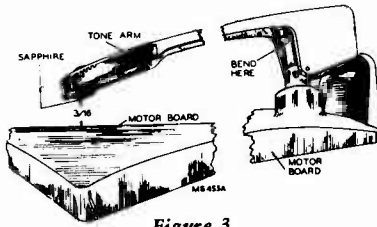

Figure 3
3. Bend portion of the tone arm bracket so that the sapphire is 3/16 inches above the flat surface of the motorboard. (Figure 3.)